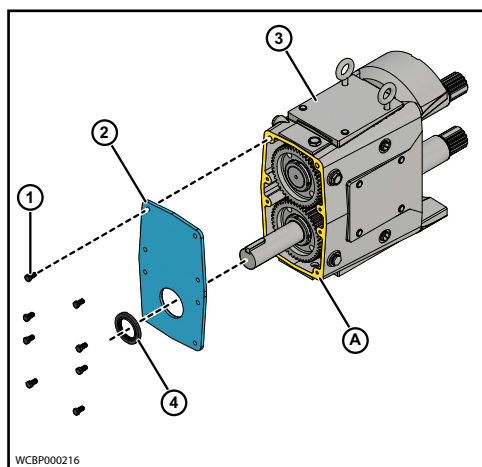

Figure 88 - Install Cover Lip Seal and Cover
1. Lubricate the inside diameter of a new oil seal (4), as shown in Figure 88.
2. Press the new oil seal (4) into the gear case cover (2) flush with the outside face, with the spring facing in, as shown in Figure 88.
3. Apply silicone sealant (A) to the back of the gear case (3). (Gore-Tex® sealing tape can be used on silicone-free models.) Place tape on the inside of the screw holes.